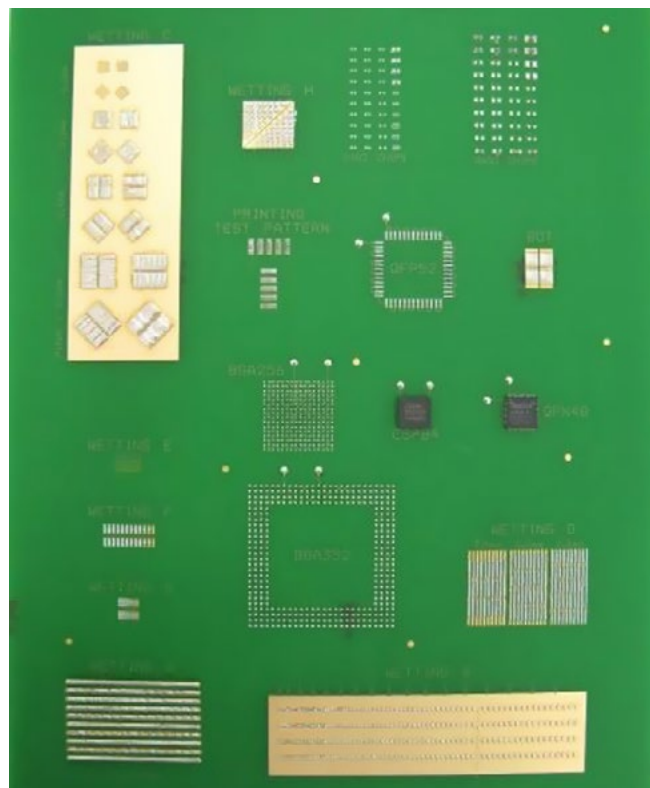
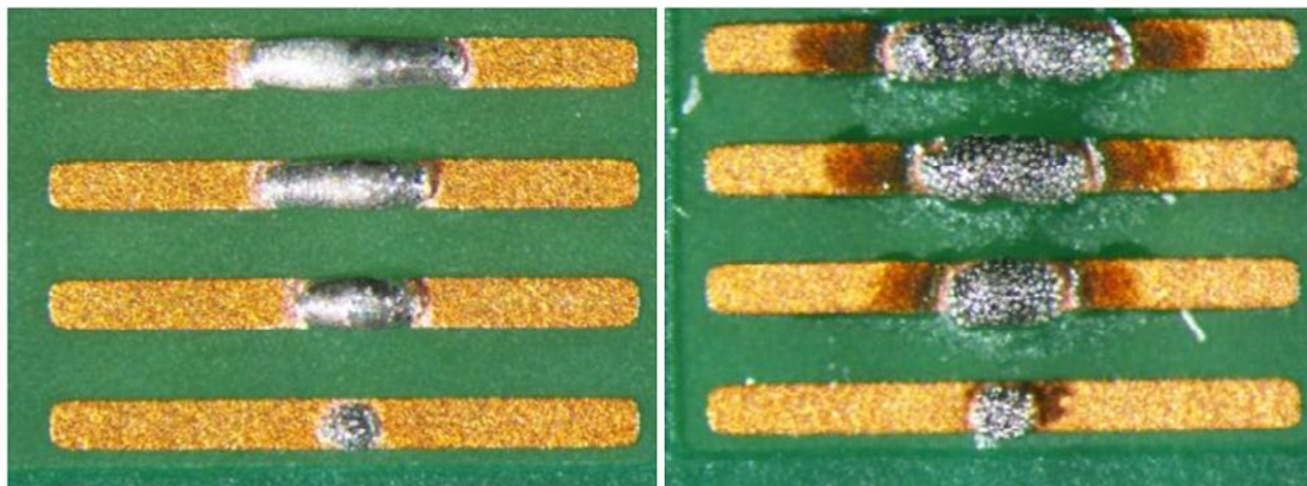

Figure 6: Wetting test board.
Figure 7: Wettability on test board pattern G (ENIG): (l) Paste A; (r) Paste D.
The pastes were printed through a 100 μm stencil on a test board designed for wettability (Figure 6). In order to pre-oxidize the test boards, they were submitted to one prior reflow. P5 was used. Organic solderability preservative (OSP) and electroless nickel immersion gold (ENIG) finishes were tested. Wetting performances were checked. Pictures of wetting on patterns A and G are given in Table 6 and Figure 7.
The wetting test boards with OSP finish were used: one CSP 84 3 rows 0.5 mm pitch 7 mm² and several 0603 chips were placed (Figure 6). After reflow with P5 thermal profile, the boards were cleaned in a water-based spraying machine. Five conditions were used: cold de-ionized (DI) water, 50°C DI water, 65°C DI water, 50°C DI water with 5% detergent, 50°C DI water with 25% detergent; each cleaning cycle was set to 10 minutes and was followed by a rinsing step with DI water and a drying step of five minutes at 80°C with hot air. The cleanliness was evaluated by visual inspection under binocular.